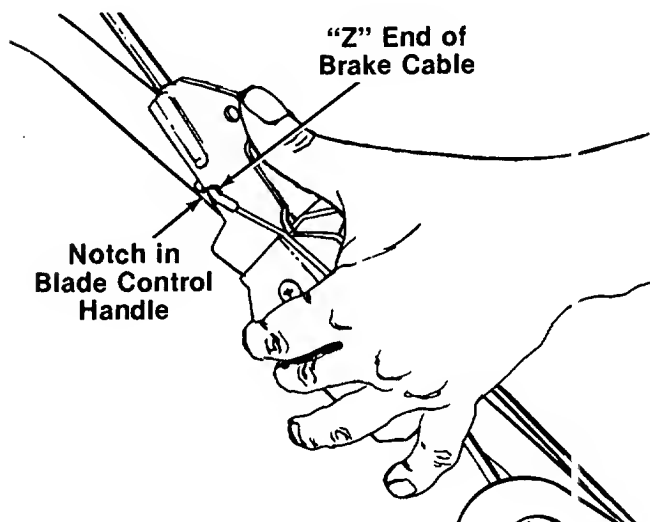

FIGURE 8.
- a. Hook the "Z" end of the cable into notch provided in the blade control handle. See figure 8.
14. Loosen the screw on the cable clamp shown in figure 8. Slip the control casing under the clamp. With the throttle lever on the engine still in the "Fast" position, tighten the screw to secure the throttle control cable. Be certain the clamp is positioned so it holds the cable in a straight line, parallel to the engine shroud.